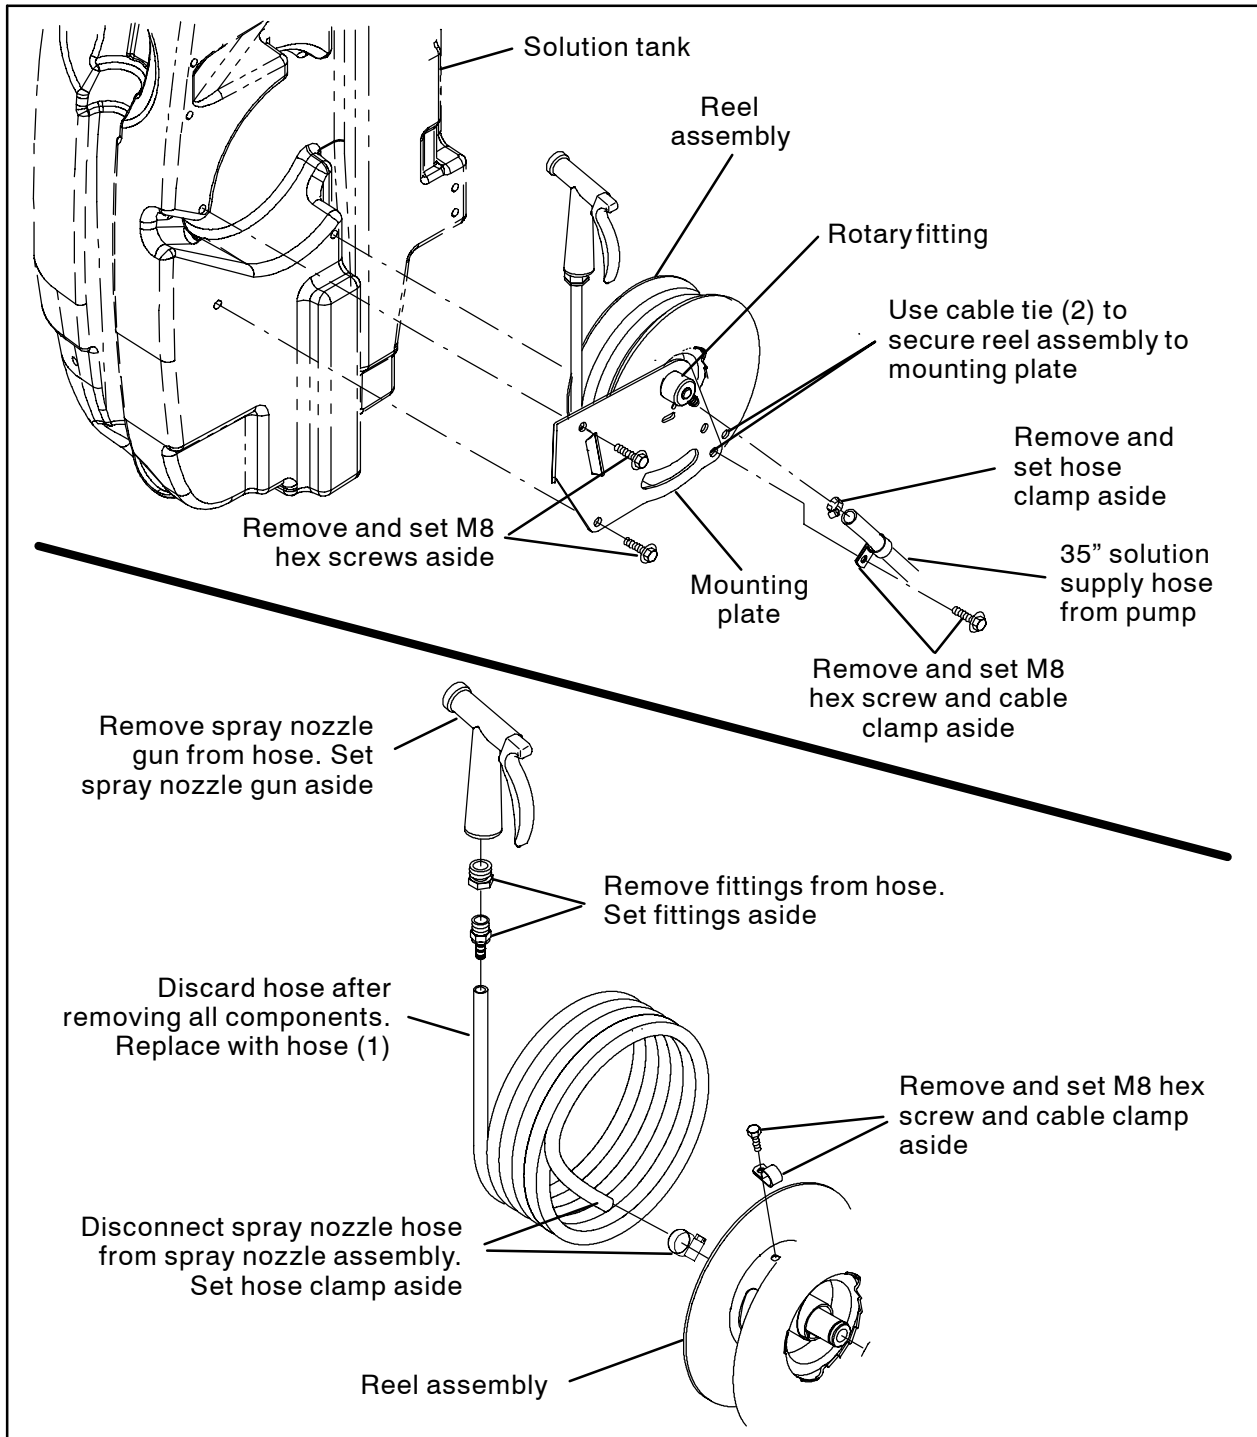

FIG. 1
6. Remove the cable clamp securing the 35" solution supply hose to the spray nozzle assembly. Set the cable clamp aside and M8 hex screw aside. Refer to Fig. 1.
7. Disconnect the 35" solution supply hose from the spray nozzle assembly. Set the hose clamp aside. Refer to Fig. 1.
8. Remove the rotary fitting from the spray nozzle assembly. Set the rotary fitting aside. Refer to Fig. 1.
9. Use a cable tie (2) to secure the reel assembly to the mounting plate. Refer to Fig. 1.
10. Remove the spray nozzle assembly from the machine. Set the M8 hex screws aside. Refer to Fig. 1.
11. Remove the hose from the spray nozzle assembly. Set the hose clamp aside. Refer to Fig. 1.
12. Remove the spray nozzle gun and fitting from the hose. Set the spray nozzle gun and fitting aside. Discard the hose. Refer to Fig. 1.
1. Install the fittings and spray nozzle gun onto the new spray hose (1). Refer to Fig. 1.
2. Connect the spray hose (1) to the spray nozzle assembly. Refer to Fig. 1.
3. Use the M8 hex screw and cable clamp to secure the spray hose (1) to the spray nozzle assembly reel. Refer to Fig. 1.
4. Wrap the spray hose (1) evenly onto the reel assembly. Refer to Fig. 1.
7. Reinstall the spray hose assembly onto the solution tank. Refer to Fig. 1.
8. Reinstall the rotary fitting onto the spray nozzle assembly. Refer to Fig. 1.
9. Use the hose clamp to reconnect the 35" solution supply hose to the rotary fitting. Refer to Fig. 1.
10. Use the cable clamp and M8 hex screw to secure the 35" solution supply hose to the spray nozzle assembly. Refer to Fig. 1.
11. Cut the cable ties (2) from the reel assembly. Refer to Fig. 1.